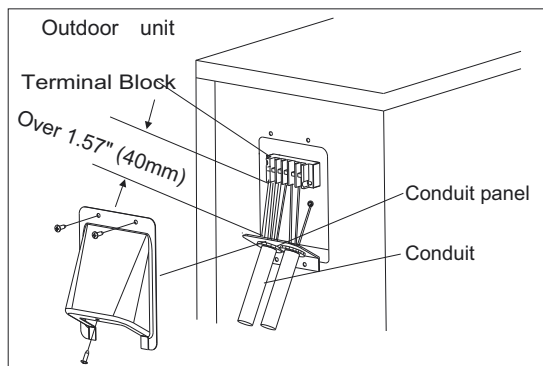

Fig. 10 – Field Wiring
5. Connect conduit to conduit panel (see Fig.10).